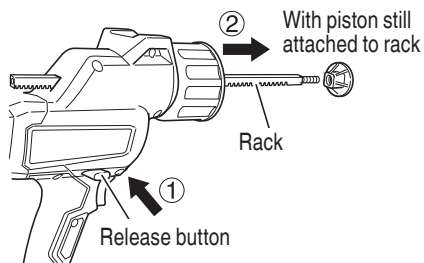

Fig. 12
- (3) While pressing the release button to release the lock, pull the rack out from the front side of the main body. (Fig. 12)